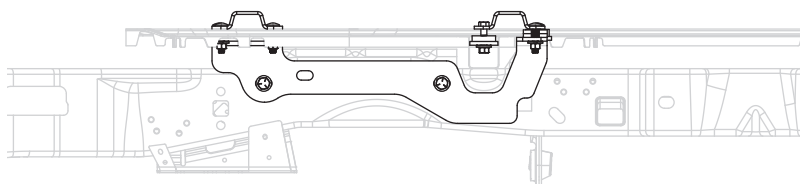

FIG. 3
8. Use 1/2" hex bolts, 8mm spacer block, 12mm spacer block, 1/2" conical washer, and 1/2" nuts on row 3 [7, 9, 10]. Spacer blocks to be mounted below the truck bed within the channel of the bed support (see fig. 3). Be sure to use galvanic isolator material on this step. Loosely tighten 1/2" bolts at this time.
10. 1/2" carriage bolts are required in the outer most square holes in center of base rails for all installations. Refer to 48630 instructions for specifics. For this installation (1) 12mm spacer block will be used between the base rail and the truck bed and (1) 8mm spacer block will be used between the truck bed and the conical washer.